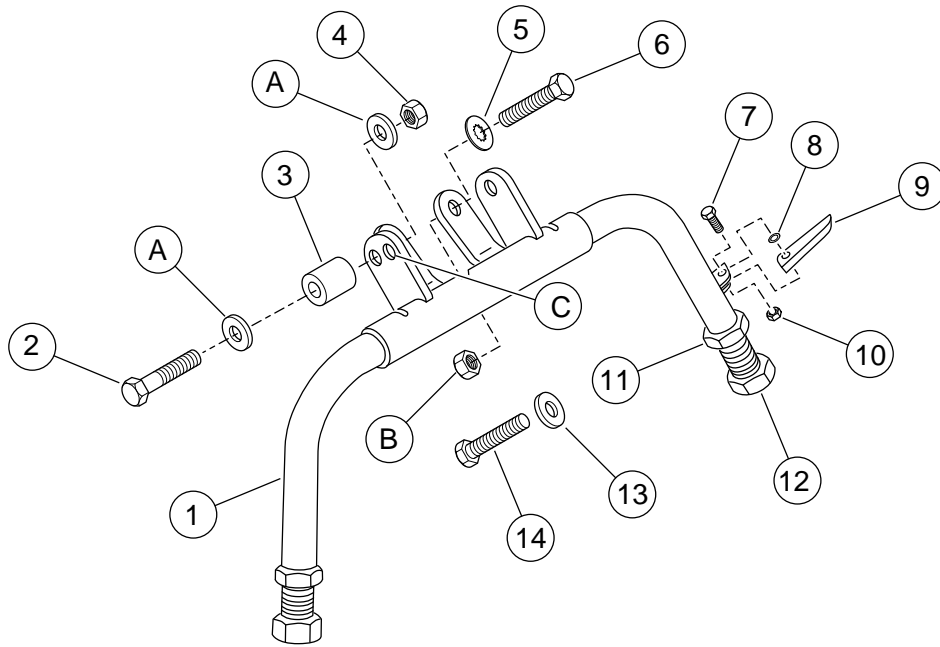

Figure 4. Service Parts: Chrome Display Stand Kit
See Figure 4 and Table 1.
See Figure 4. Install the 1/4-20 x 1-1/4 inch hex bolts (14) and 1/4 inch washer (13) through the cross-member stud holes, from the bottom.
3. Loosely fasten the display-stand side brackets to the vehicle using 3/8-24 x 2-1/2 inch bolts (2), stock washers (A), spacers (3), and locknuts (4) through the rear hole.
5. Tighten the 3/8-24 x 2-1/2 inch bolts (2) to 33 ft-lbs (44.7 Nm). Tighten the 5/16-inch bolts (6) to 19 ft-lbs (25.8 Nm).
See Figure 4. Fasten the stock washers (A) and locknuts (B) to the 1/4-20 x 1-1/4 inch hex bolts (14). Tighten locknuts to 72-96 in-lbs (8.1-10.8 Nm).
See Figure 4. When replacing the bolt (7), spring washer (8), foot peg (9), or locknut (10) as a service part, tighten bolt (7) to 12 ft-lbs (16.3 Nm).
5. See Figure 4. Loosen the jamnut (11) on one side of the display stand.
6. Turn the leg bolt (12) to lengthen or shorten the display stand leg.